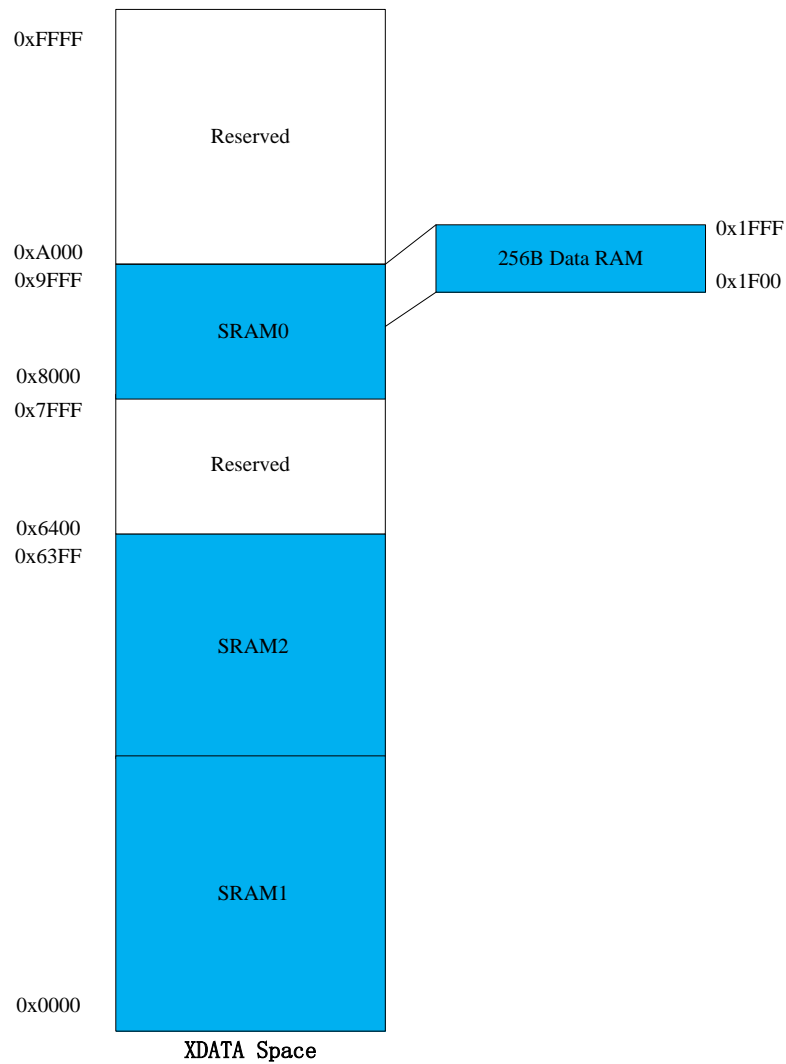
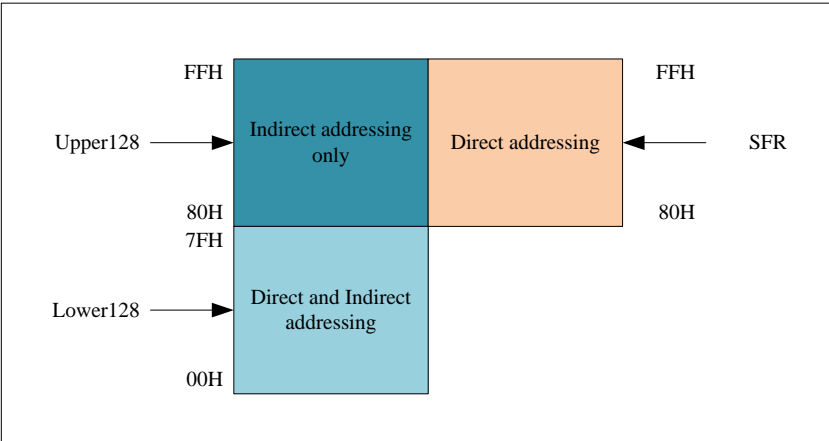

Figure 3-2 External Data Memory Mapping
Figure 3-3 Internal data memory mapping
*Figure 3-2* illustrated External Data Memory Mapping.
Internal data memory locates in SRAM0 at the address from 0x9F00 to 0x9FFF as showed in *Figure 3-2*. Internal data memory is mapped in *Figure 3-3*. The memory space is shown divided into three blocks, which are generally referred to as the Lower 128, the Upper 128, and SFR space.